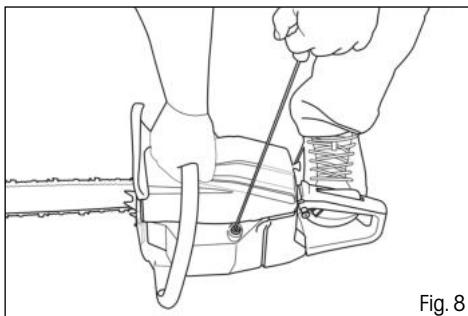

Fig. 8
4. Place the chain saw flat on the ground so that it is stable and pull on the handle of the starting cord until the engine rotates (the engine will show signs of attempting to start) (Fig. 8).
- Pull on the handle of the starting cord until the engine starts up (Fig. 8). DO NOT USE THE CHOKE!